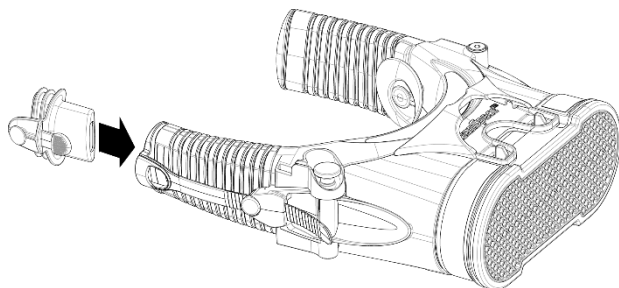

Figure 4 - Flow Test
2. Fit the yellow Flow Test Cap to the left bellow. See Figure 4.